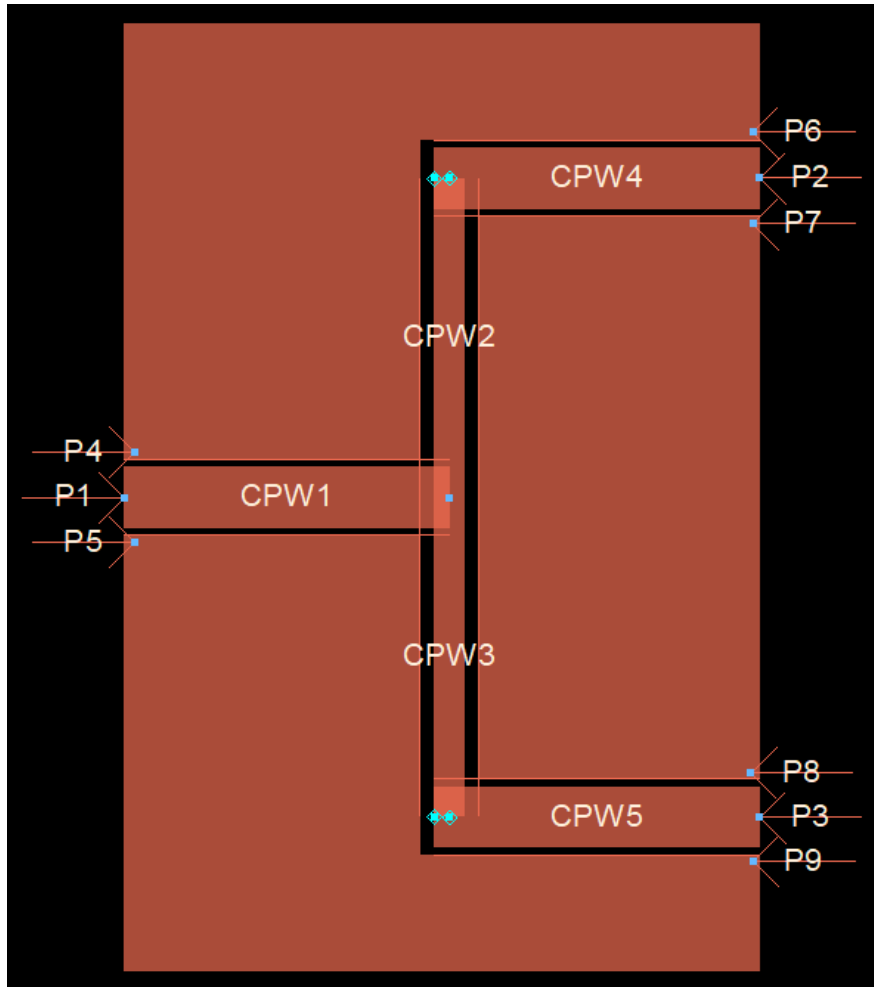

Figure 27. Layout of CPW power divider with ground plane
4. Assign pins to the layout. For each signal pin, there will be two ground pins. To make it easier to analyze results, assign the signal pins as Ports 1, 2, and 3. The ground pins should start at Port 4. Note that the signal pins should connect right to the waveguide component and the ground pins should be placed right inside the edge. This is shown in Figure 27.